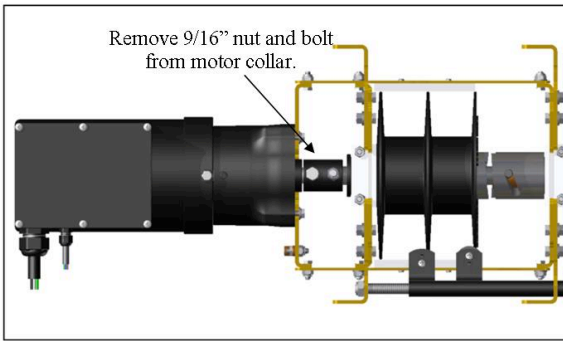

Fig. 1
- Remove the motor collar using two 9/16 inch wrenches. (#IN1131) fig.1
Step 2: Remove the 9/16" bolt connecting the drive shaft to the motor, this allows the gears of the mechanism to free spin (**Fig. 1**).